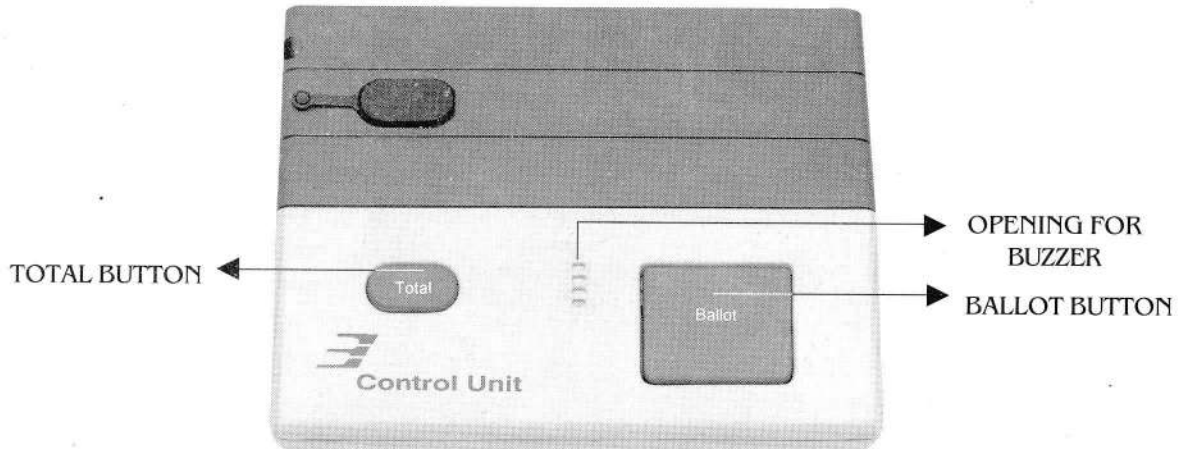

FIG. 11 View of Ballot Section of Control Unit
23. In the ballot section, there are two buttons - a blue 'Total' button, a large blue 'Ballot' button and a buzzer as indicated in Fig. 11.